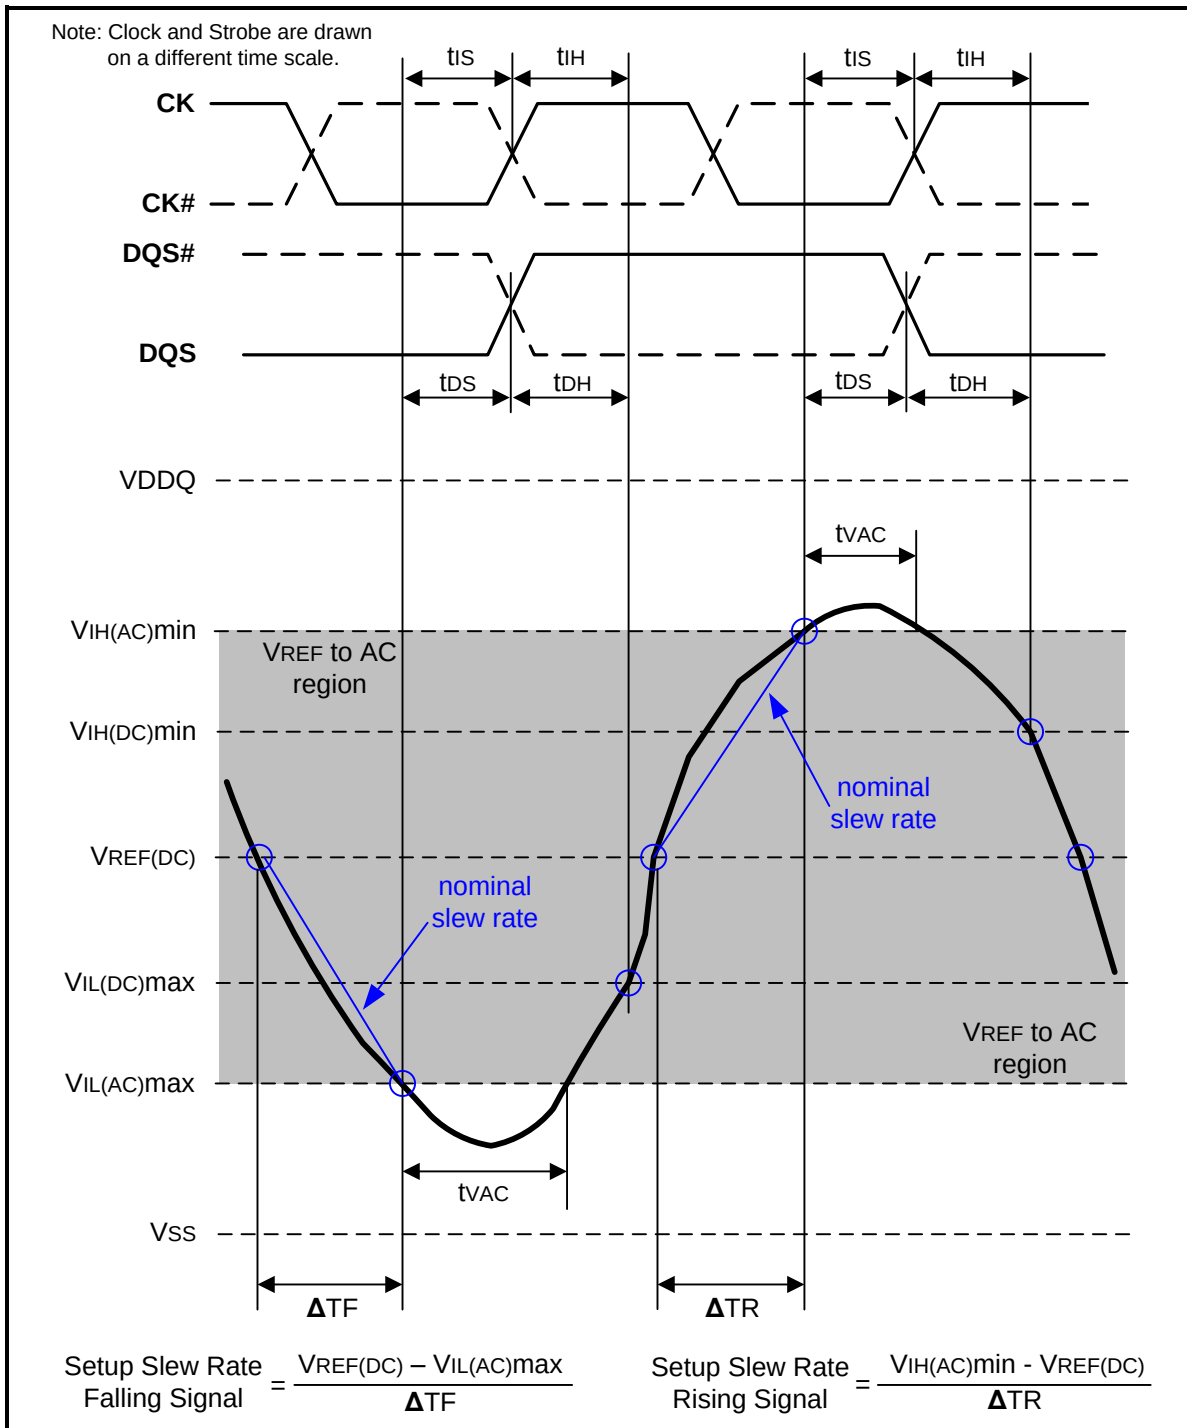
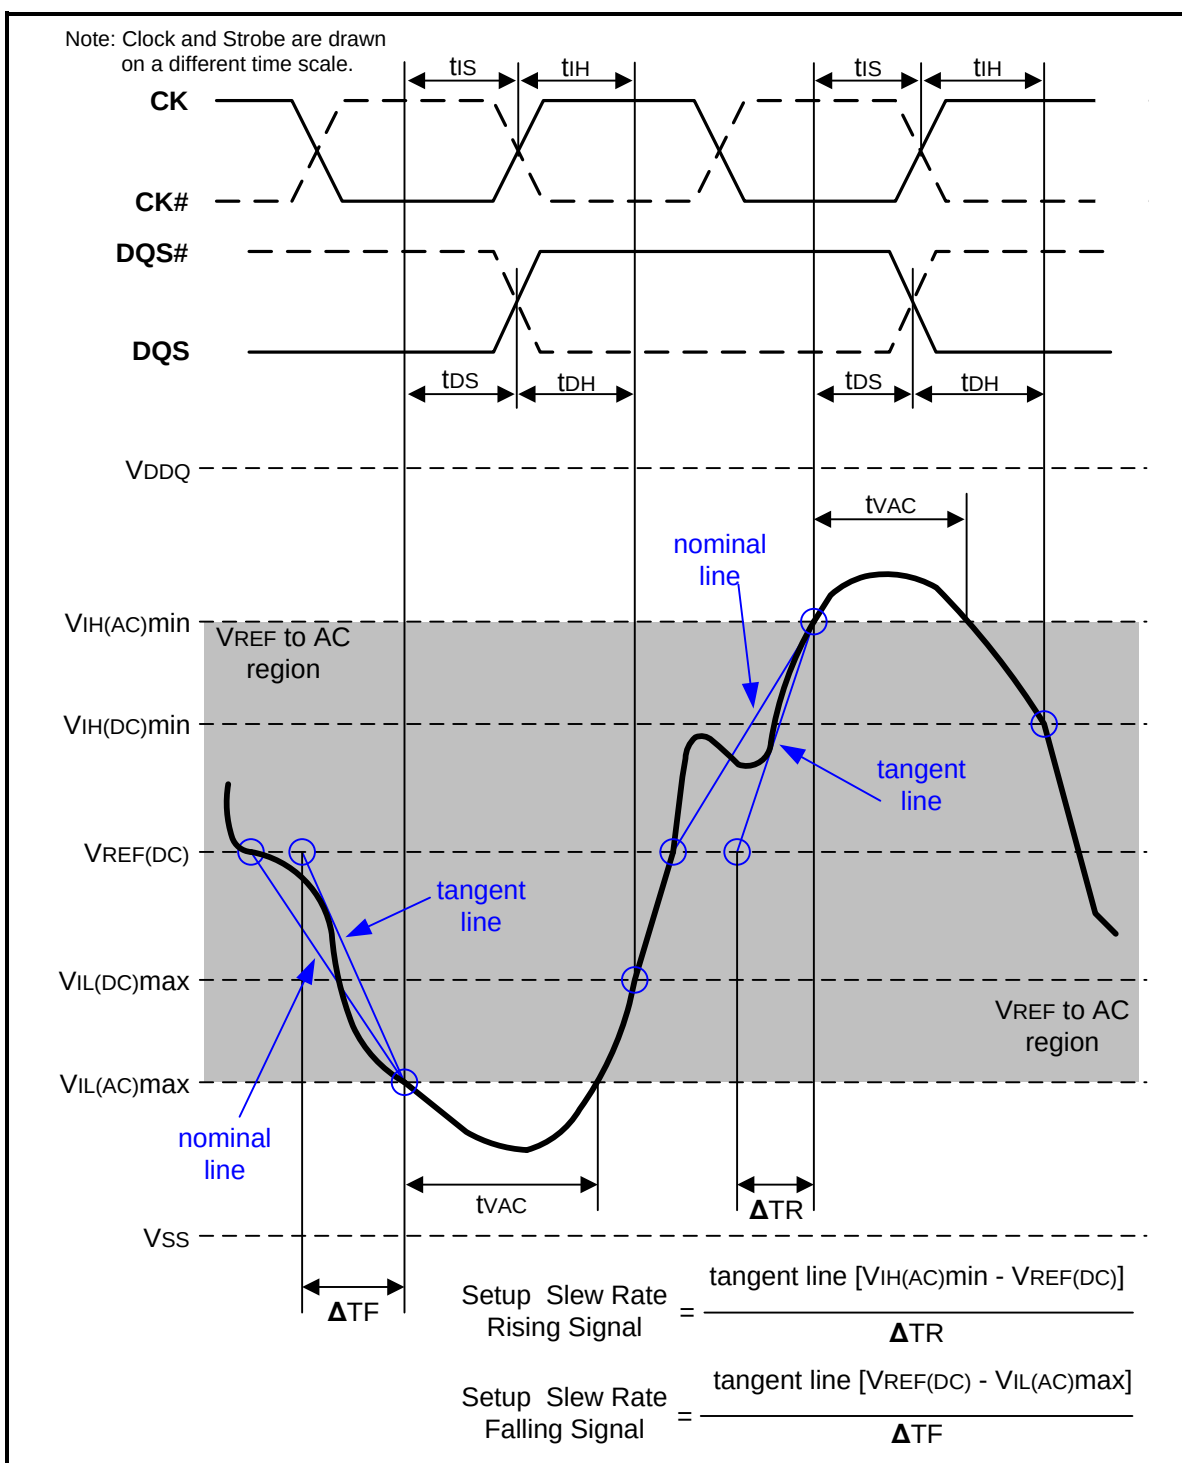

Figure 107 – Illustration of nominal slew rate and tvAC for setup time t_{DS} (for DQ with respect to strobe) and t_{IS} (for ADD/CMD with respect to clock)
Figure 109 – Illustration of tangent line for setup time t_{DS} (for DQ with respect to strobe) and t_{IS} (for ADD/CMD with respect to clock)
Setup (t_{IS}) nominal slew rate for a rising signal is defined as the slew rate between the last crossing of $V_{REF}(\text{DC})$ and the first crossing of $V_{IH}(\text{AC})_{\text{min}}$. Setup (t_{IS}) nominal slew rate for a falling signal is defined as the slew rate between the last crossing of $V_{REF}(\text{DC})$ and the first crossing of $V_{IL}(\text{AC})_{\text{max}}$. If the actual signal is always earlier than the nominal slew rate line between shaded 'VREF(DC) to AC region', use nominal slew rate for derating value (see Figure 107). If the actual signal is later than the nominal slew rate line anywhere between shaded 'VREF(DC) to AC region', the slew rate of a tangent line to the actual signal from the AC level to $V_{REF}(\text{DC})$ level is used for derating value (see Figure 109).
Setup (tDS) nominal slew rate for a rising signal is defined as the slew rate between the last crossing of VREF(DC) and the first crossing of VIH(AC)min. Setup (tDS) nominal slew rate for a falling signal is defined as the slew rate between the last crossing of VREF(DC) and the first crossing of VIL(AC)max (see Figure 107). If the actual signal is always earlier than the nominal slew rate line between shaded 'VREF(DC) to AC region', use nominal slew rate for derating value. If the actual signal is later than the nominal slew rate line anywhere between shaded 'VREF(DC) to AC region', the slew rate of a tangent line to the actual signal from the AC level to VREF(DC) level is used for derating value (see Figure 109).